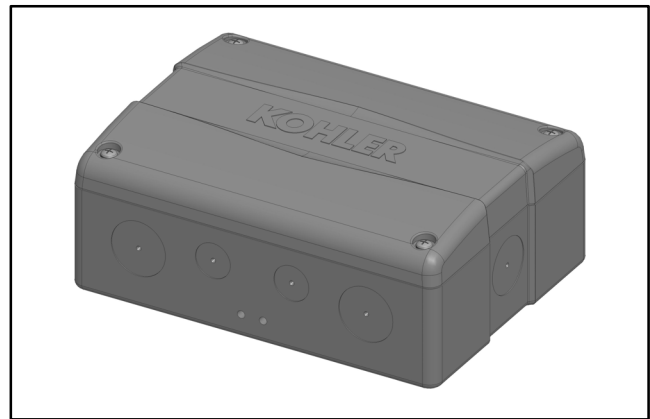

Figure 4-12 Power Relay Module
Kohler® power relay modules include one power relay mounted inside a NEMA type 3R enclosure. Connect up to four (4) power relay modules to the load shed kit. See Figure 4-12 for an illustration of a power relay module.